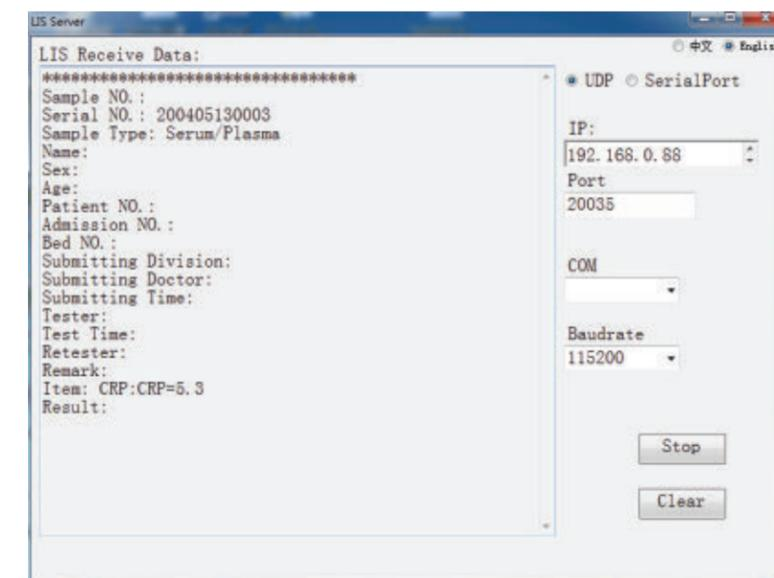

Fig. 6.13
- (7) Return to IP address setting menu, click “OK” to confirm IP setting.
- (8) Run ReceiveFromCRPTemp.exe. The meter will automatically send test results to the connected PC every time after a test finishes. Fig. 6.13 shows an example that the PC receives CRP test result from Finicare™ FIA Meter Plus.